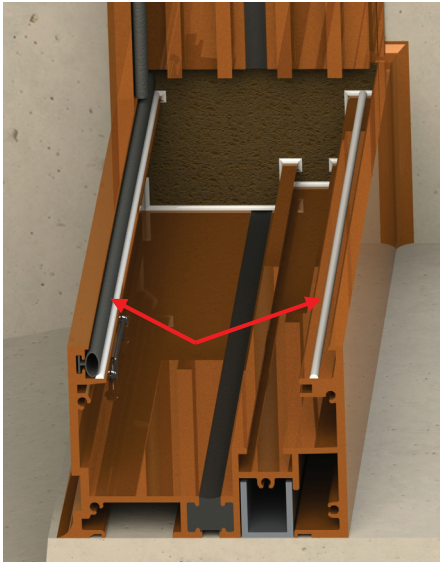

Fig. 16
- A. Apply a bead of sealant to the legs of the sub-sill where the window will rest. (Fig. 16)